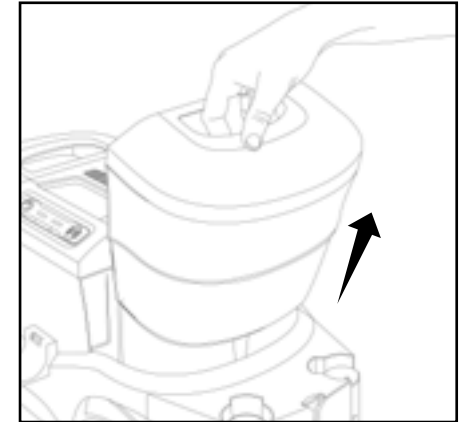

Fig. 2
2. Remove the clean water tank by lifting up from the handle and pulling it away from the base of the machine (Fig 2)